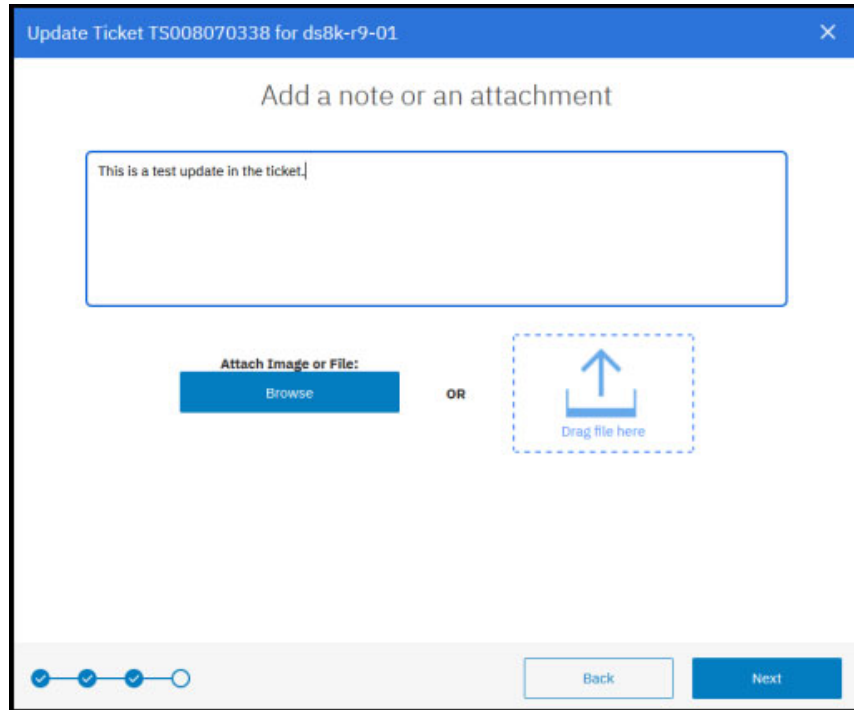

Figure 12-29 IBM Storage Insights: Ticket update and attachment
- In the window that is shown in Figure 12-29, you can leave a message for the IBM Support personnel working on the ticket. Also, you can attach any files that are related to the ticket.